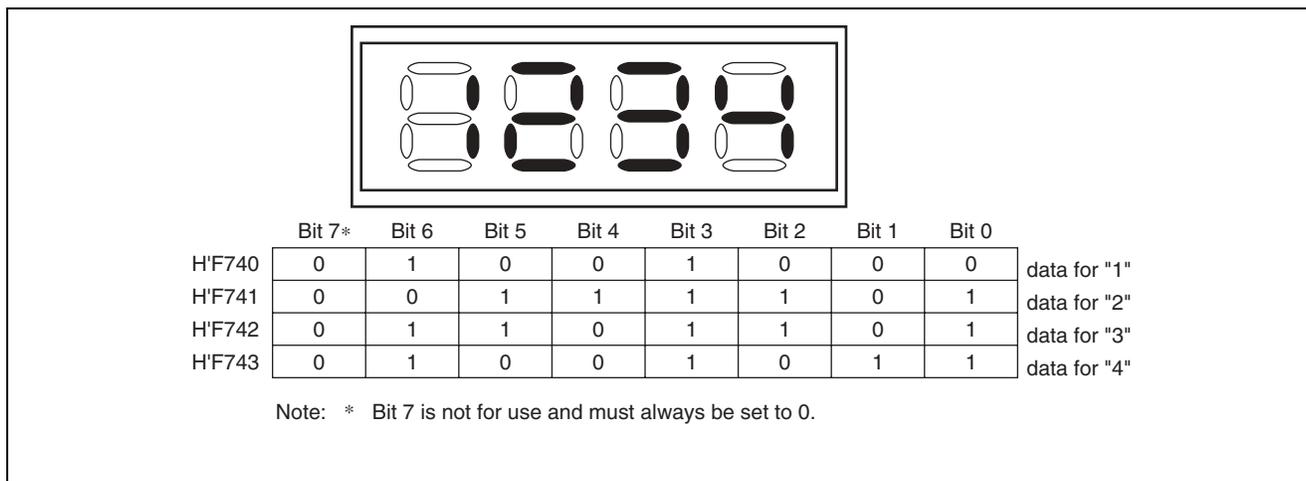

Figure 2.4 Relation between LCD Display and LCD RAM Settings
6. Figure 2.4 shows the relation between the display on the 4-digit 7-segment LCD used in this sample task and data set in the LCD RAM. The numeric characters "1234" is displayed on the 4-digit 7-segment LCD by setting the LCD RAM as shown in figure 2.4.